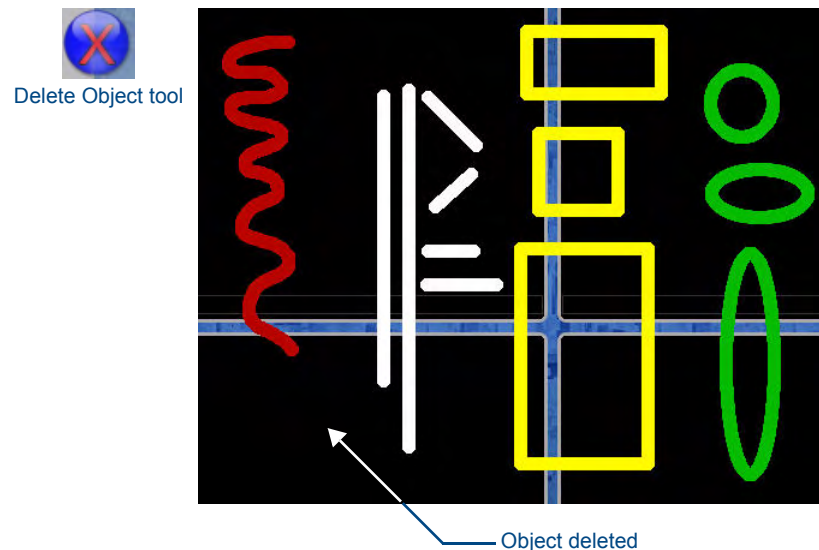

FIG. 104 Drawing annotations examples (Curved Line object deleted)
2. Press the **Delete** button (FIG. 104).